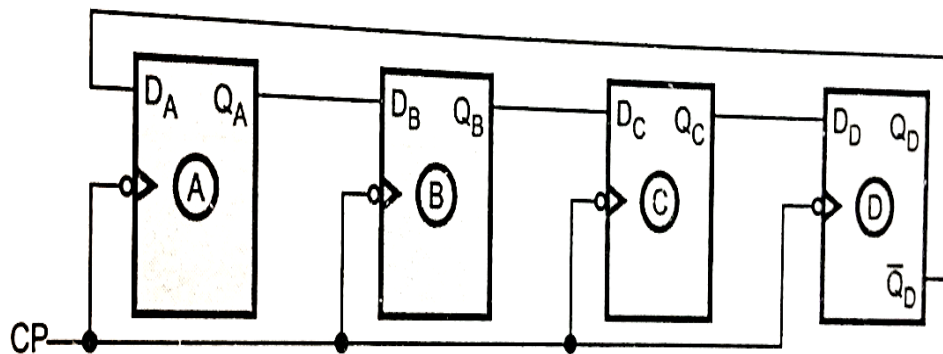

Figure 3.40: Four-bit Johnson counter.
- As shown in figure 3.40 there is a feedback from the rightmost flip-flop complement output to the leftmost flip-flop input. This arrangement produces a unique sequence of states.